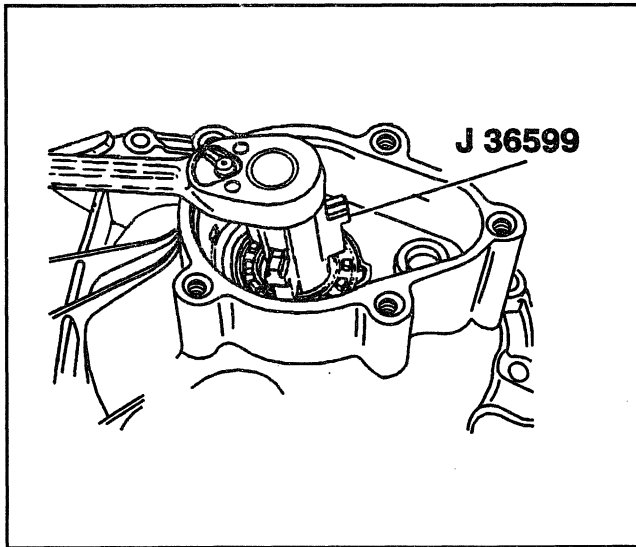
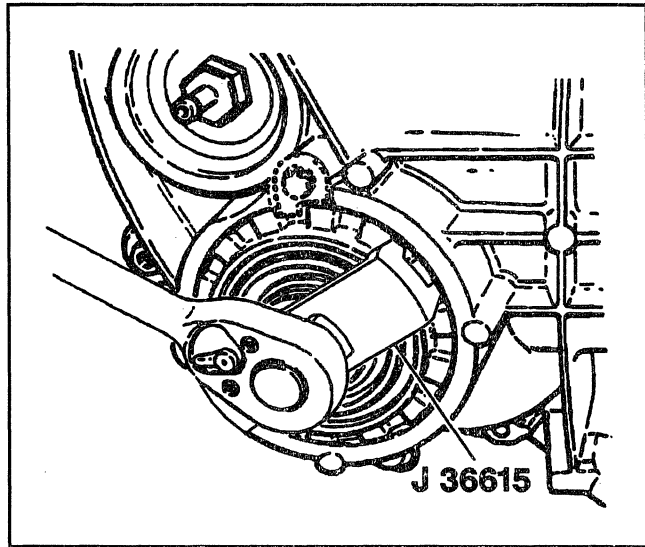

Figure 35—Turning the Adjuster Sleeve
Figure 36—Turning the Adjuster Plug (K3 Models)
- K1 and K2 models: Use J 36599 (Figure 35).
- K3 models: Use J 36599 for the right sleeve (Figure 35). Use J 36615 for the adjuster plug (Figure 36).
- K3 models: Use J 36615 (Figure 36).
- If the carrier halves do not make complete contact, back out the right sleeve. Use J 36599 (Figure 35).
2. Tighten the right sleeve to 140 N.m (100 lb. ft.) using J 36599 (Figure 35).
- Use J 36599 (K1 and K2 models) (Figure 35).
- Use J 36615 (K3 models) (Figure 36).